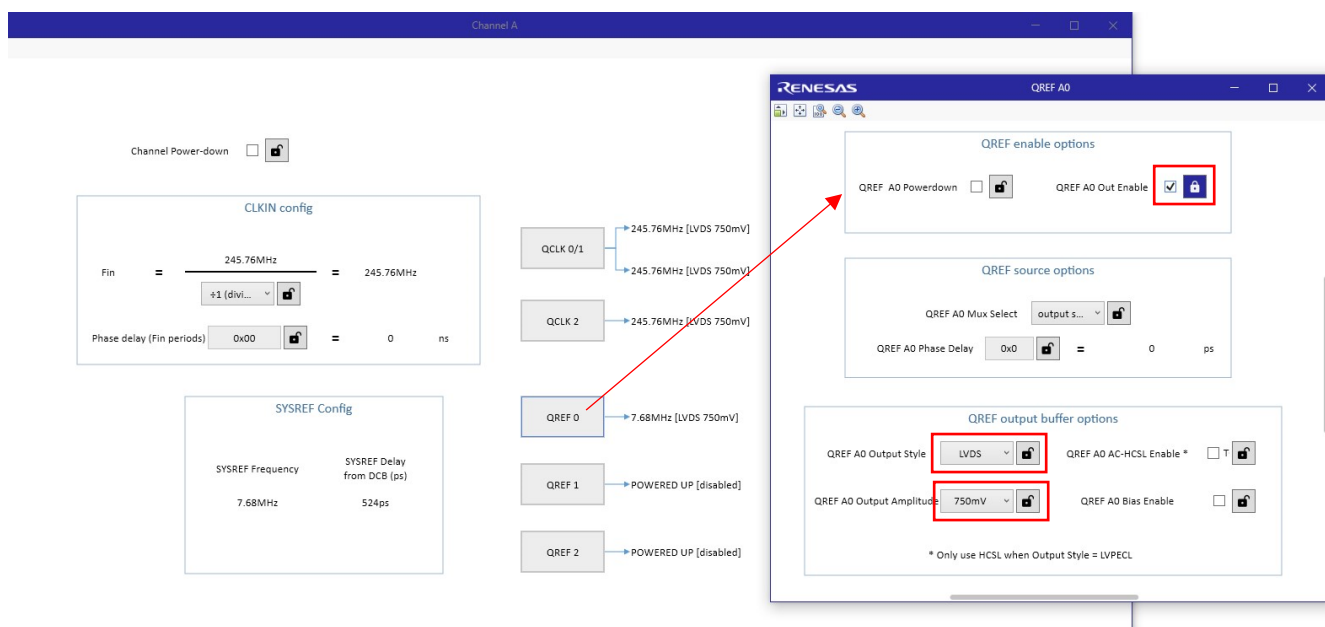

Figure 21. QREFx Output Driver Type and Phase Delay Setting
11. Set the SysRef output QREFx output driver type, amplitude and phase delay (see Figure 21 for an example). For more details, refer to the 8V79S680 datasheet.